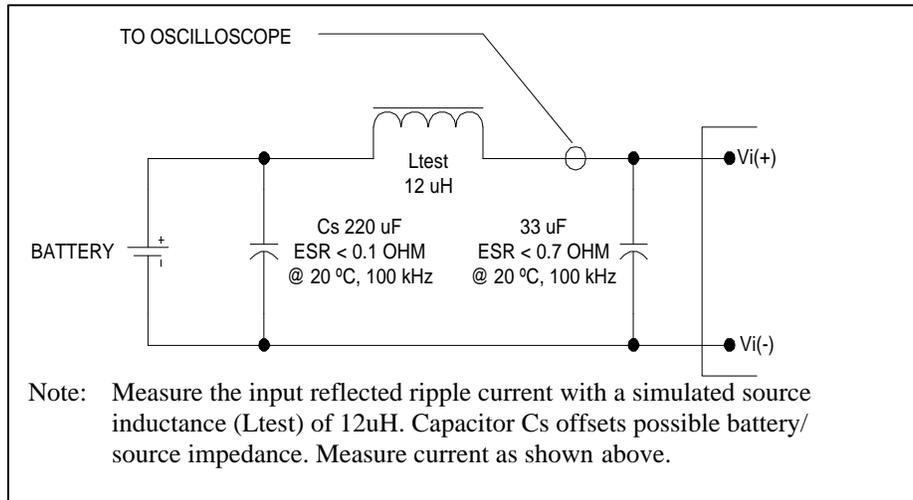

Figure 1. Input Reflected Ripple Current Measurement Setup.
2. External input capacitance required. See Input Ripple Current test measurement setup on Figure 1.